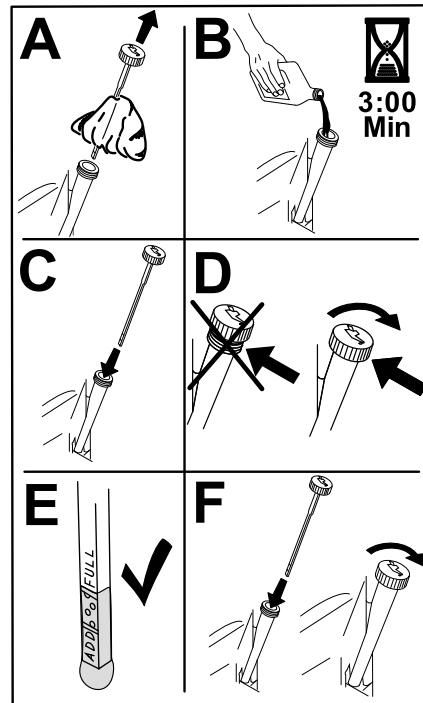

Figure 46
6. Slowly pour approximately 80% of the specified oil into the filler tube and slowly add the additional oil to bring it to the Full mark (Figure 46).